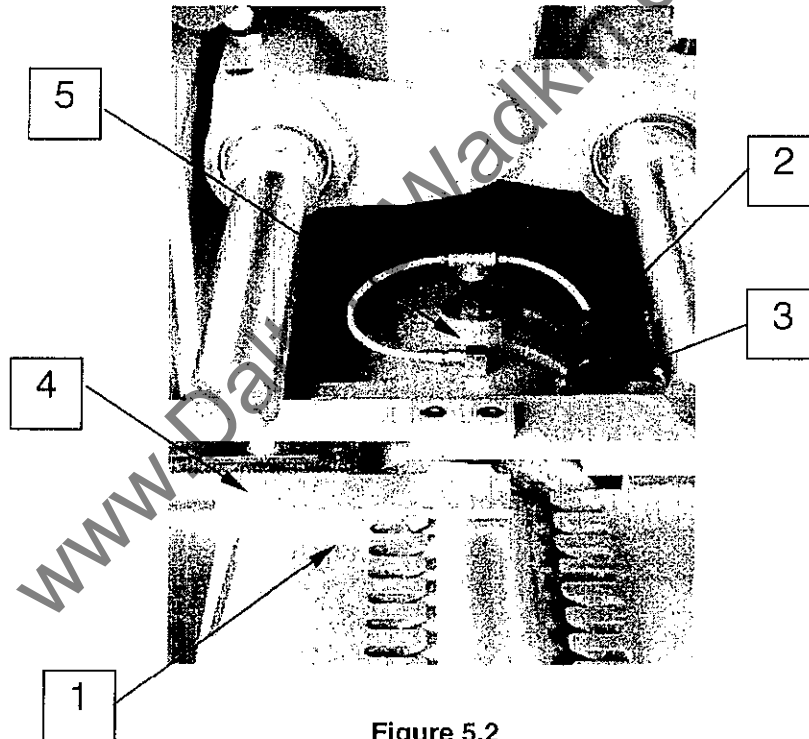

Figure 5.2
5.2 Setting First Bottom Head (Figure 5.2)